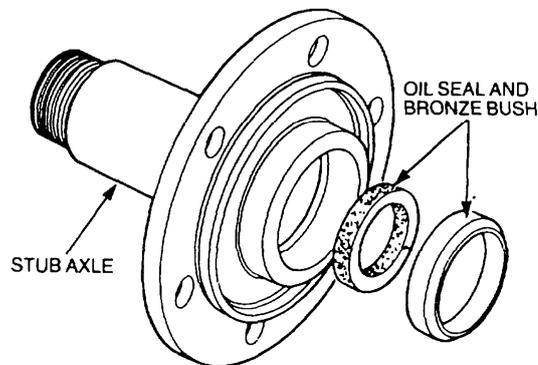

Figure 116 Stub Axle Oil Seal Removal
- c. Using the adaptor (Table 3, Serial 9) and the impulse extractor (Table 3, Serial 10), remove the oil seal and bronze bush from the stub axle (Figure 116).